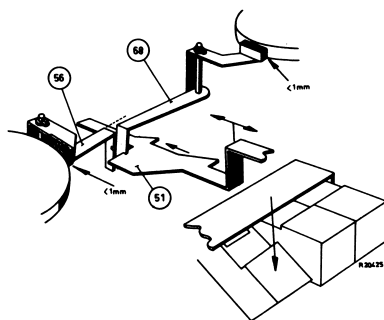
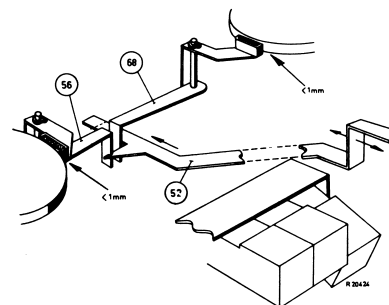

Fig 21;
Fig 22
If necessary, this can be adjusted by bending the kink in the reel strips 51 and 52 and in the start strip 50 a little (see fig. 21, 22 and 23).
- When the key for rewinding is depressed, the left-hand brake should be lifted first. The reel strip 51 should slide into the notch of the right-hand brake bracket, see fig. 21. If the key is fully depressed, then the distance between the brake shoes and the reel discs should be greater than 1 mm, see fig. 21. If necessary, this can be adjusted by bending the kink in reel strip 51, see fig. 21.
- If the key for winding is depressed, the right hand brake should be lifted first. The reel strip 52 should slide into the notch of the left-hand brake bracket, see fig. 21. If the key is fully depressed then the distance between the brake shoes and the reel discs should be greater than 1 mm, see fig. 21. This can be adjusted, if necessary, by bending the kink in reel strip 52, see fig. 22.